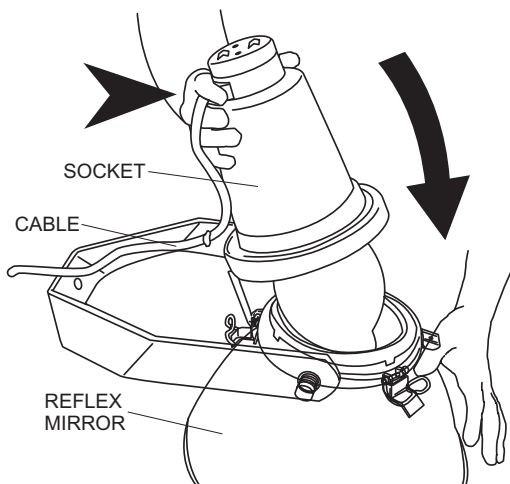

Figure 7. Positioning the Socket
2. Adjust the reflex mirror and the socket together so that the cables of the two upper lighting units are positioned downward and the cables of the two lower lighting units are positioned upwards. See Figure 7.